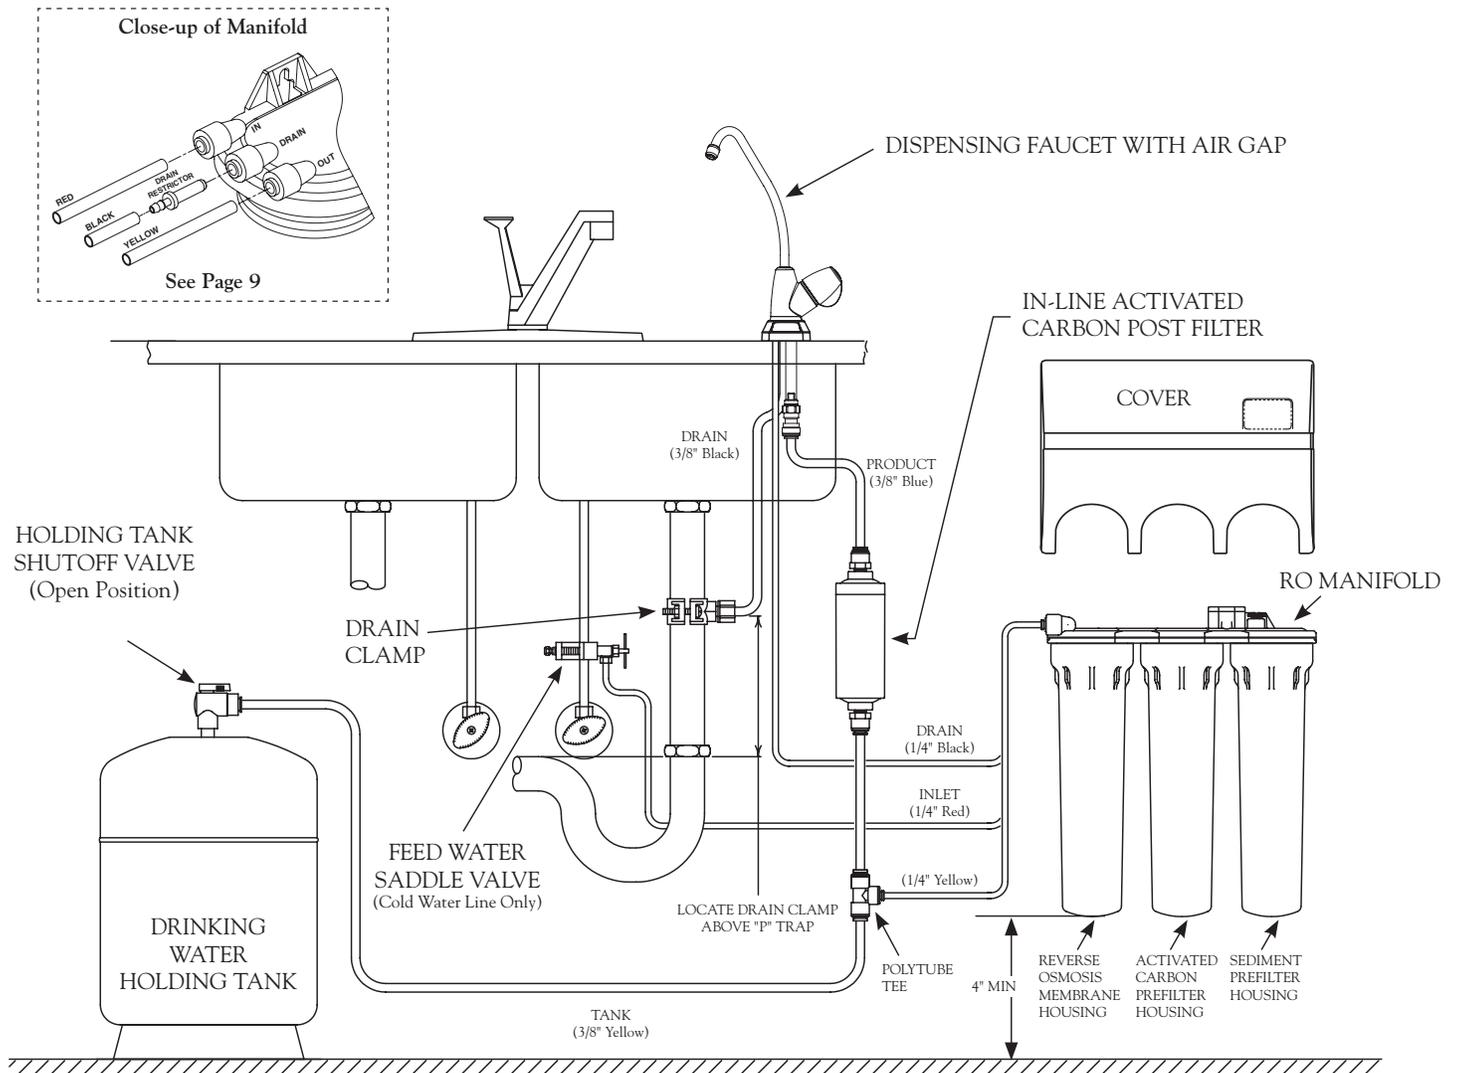

Figure 1
The following are instructions for discharging into the sink drain pipe. (Refer to Fig. 1.)
2. Locate the $\frac{1}{4}$ " Red Feed Water Tubing. Remove the red plug from the fitting labeled "In" on the manifold and insert the tubing. Reference the special supplement sheet in the carton for proper connection of all tubing and removal of plugs. Run the tubing along its course to the Feed Water Saddle Valve, trim to length. (Refer to Fig. 1.)
2. Pull the cap/plug off the top of the tank where the Tank Shut-Off should go. (Refer to Fig. 1.)
4. Locate the 3/8" Yellow Tubing. Firmly press one end into the Holding Tank Shut-Off Valve and the other end into the tee. (Refer to Fig. 1.) The fittings will grab the tubing and seal it in place. Make sure the tubing is pressed all the way in to create a pressure tight connection.
5. Locate the 3/8" Blue Product Water Tubing attached to the Dispensing Faucet. Firmly press one end into the tee. (Refer to Fig. 1.) The fittings will grab the tubing and seal it in place. Make sure the tubing is pressed all the way in to create a pressure tight connection.